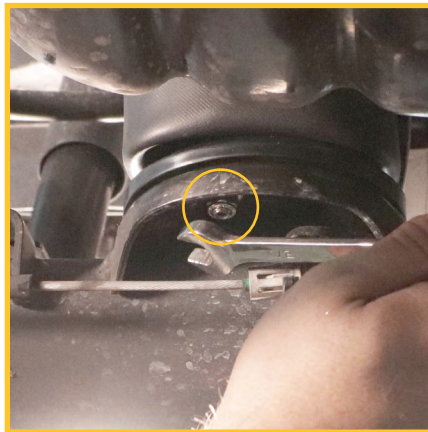

FIGURE 36
2. Install the provided nut on to the bottom stud of the air spring. Tighten to 17 ft-lbs. (FIGURES 36, 37)